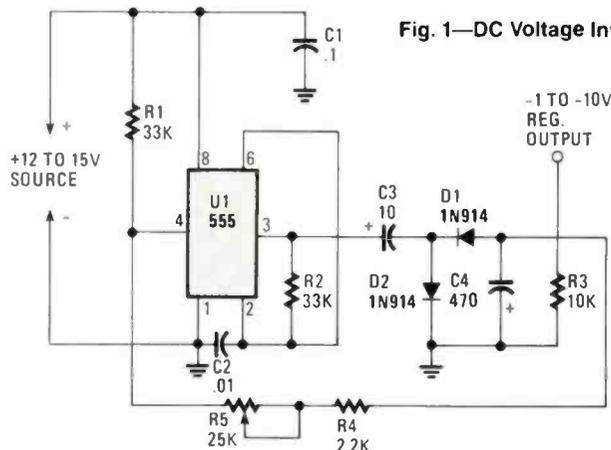

Fig. 1—DC Voltage Inverter/Doubler
The polarization of an EM wave is, by definition, the direction of the electric field. Figure 1 illustrates vertical polarization—note that the electric field is vertical with respect to the Earth's surface. If the fields were swapped, then the EM wave
Fig. 1—Radio and TV waves are electromagnetic (EM) waves exactly like light, infrared, and ultraviolet, consisting of two mutually perpendicular oscillating fields (electric and magnetic, shown in "A"). If (as shown in "B"), at a great distance from the center, we take a look at a small slice of the advancing wavefront, we would be able to observe the electric and magnetic field vectors at right angles to each other.
The DC Voltage Inverter/Doubler circuit shown in Fig. 1 turns a 12- to 15-volt positive-power source upside down, creating a variable-regulated negative supply. The negative output voltage can be set to any voltage level between 1 and 10-volts when the circuit is operated from a 15-volt power source, and can supply up to 20 mA of operating current to a connected load.
A 555 oscillator/timer, configured similarly to the one in Fig. 1, feeds a positive voltage-doubler circuit that produces the higher DC output voltage. Transistors Q1, Q2, and diode D3 add regulation and a variable output function to the circuit. If the regulator circuit is removed and a 12-volt supply is applied directly to the oscillator circuit (top of C1), the output will be over 25 volts and will vary in level with supply voltage changes and load varia-
Fig. 1—The input signal is fed to the inverting input of U1 (a 741 op-amp, set up as an amplifier/buffer). U1's output is fed to the common-base leads of Q1 and Q2 (which you'll surely recognize as a push-pull amplifier). The input to the push-pull (feeding SPKR1) is controlled by R4, which serves as a volume control.
Take a look at Fig. 1. Note that only one channel is shown. For stereo operation, two such circuits are required. The applied signal is fed to the inverting input of U1 (a 741 op-amp that's set up as an amplifier/buffer). The output of U1 is fed to the common-base connections of Q1 and Q2 (which you'll surely recognize as a push-pull amplifier). The input to the push-pull (feeding SPKR1) is controlled by R4, which serves as a volume control.